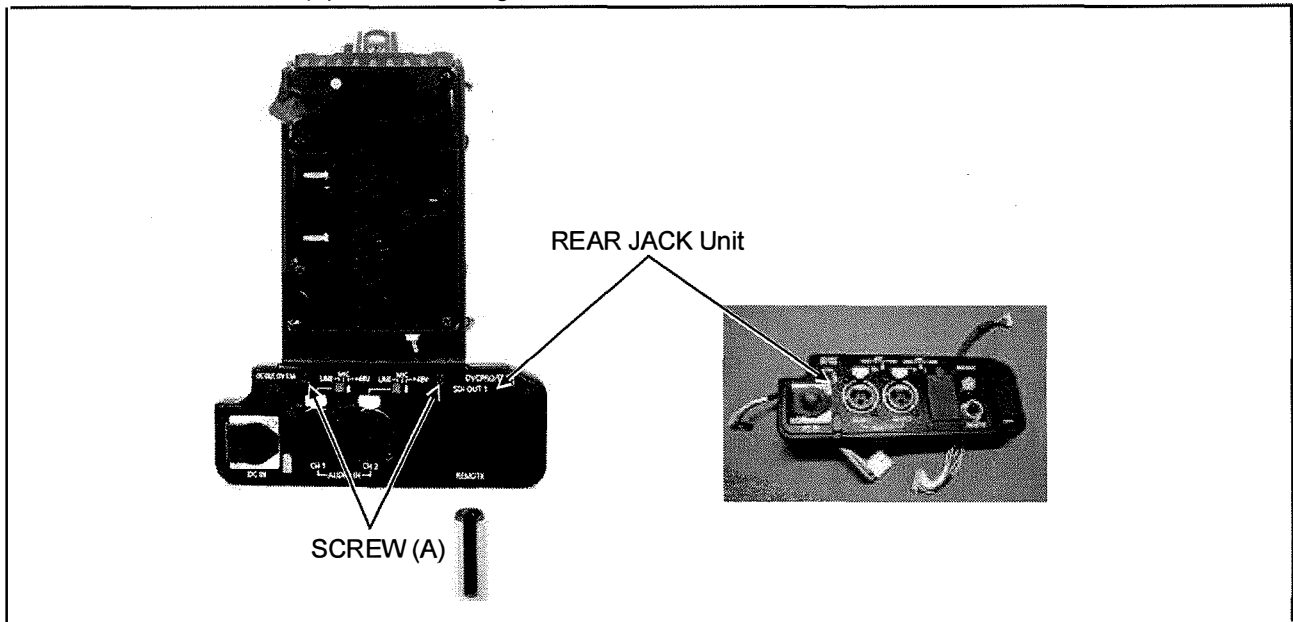

Figure 8-3
8. Unscrew the 2 screws (A) as shown in figure 8-3 and remove the REAR JACK Unit.